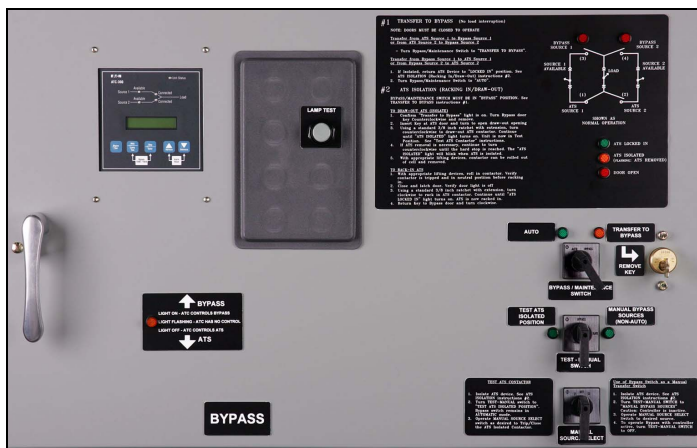
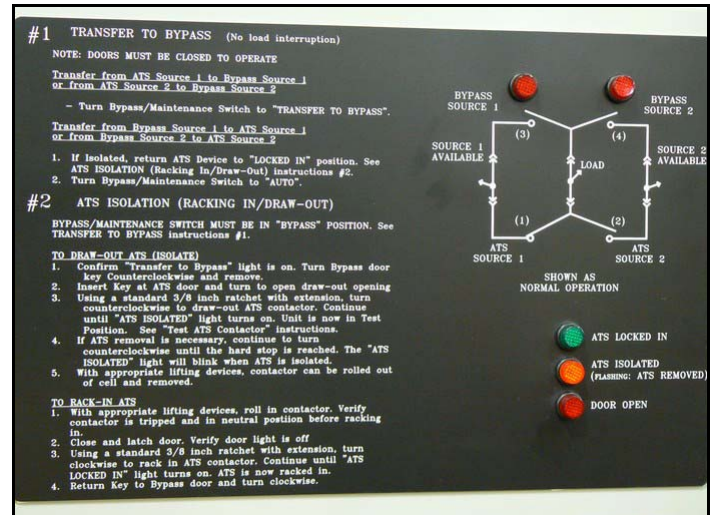

Figure 23. Top Bypass Door.
Figure 24. Lights.
The Bypass Isolation Switch has two operator panels on the top (Bypass) door (see Figure 23) with switches and lights (see Figures 24 and 25). The Kirk-Key must be in the top door and turned clockwise (as shown in Figure 25) for the system to operate normally in the AUTO position. The following descriptions are for those features that are standard with the Bypass Isolation Switch. The Push-To-Test button allows testing of the transfer switch with the generator. Pushing the button two times will simulate a power failure, causing the transfer switch to start the transfer sequence. Pressing the button again will restore regular power. Additional features are described in the options section of the ATC controller IBs.
3. Turn Bypass/Maintenance Switch to "Transfer to Bypass." The Transfer to Bypass light will illuminate when the Bypass contactor is closed to S1 and the ATS contactor is tripped. The intelligence/supervisory circuits will constantly monitor the condition of both the Source 1 and Source 2 power sources and automatically initiate a transfers of power from the Source 1 to the Source 2 on the Bypass contactor. The Bypass unit is now an automatic transfer switch. The Bypass/ATS light will now be on showing that the ATC controller is now actively controlling the Bypass part of the switch. Figure 23 shows the amber light on the left side of the top door.
2. Turn the Bypass/Maintenance Switch to "Transfer to Bypass." The Transfer to Bypass light will illuminate when the Bypass contactor is closed to S2 and the ATS contactor is tripped. The intelligence/supervisory circuits will constantly monitor the condition of both the Source 1 and Source 2 power sources and automatically initiate transfers of power from the Source 1 to the Source 2 on the Bypass contactor. The Bypass unit is now an automatic transfer switch. The Bypass/ATS light will now be on showing that the ATC controller is now actively controlling the Bypass part of the switch. Figure 23 shows the amber light on the left side of the top door.
2. When in Bypass and with the ATS racked-out (ATS Isolated light will be illuminated), switch the Test-Manual Switch to the "Manual Bypass Sources". The manual operation of the Bypass unit will result in the controller being inactive in controlling the Bypass contactor. The Bypass/ATS light will now be flashing showing that the ATC is inactive (Figure 23).
To select the source use the Manual Source Select switch. This switch is spring loaded to center. Switching to S1 or S2 will close the Bypass contactor to the desired source. The "Bypass Source 1 or Source 2" lights will be illuminated as the "Manual Select Switch" is used (see Figure 24). If no light is on, the contactor is in the tripped (open) position. If closed is desired, turn the switch longer. There is a 1 second interval for tripping and the closing of the contactor. This allows for testing and visual inspection of the unit tripping and closing.